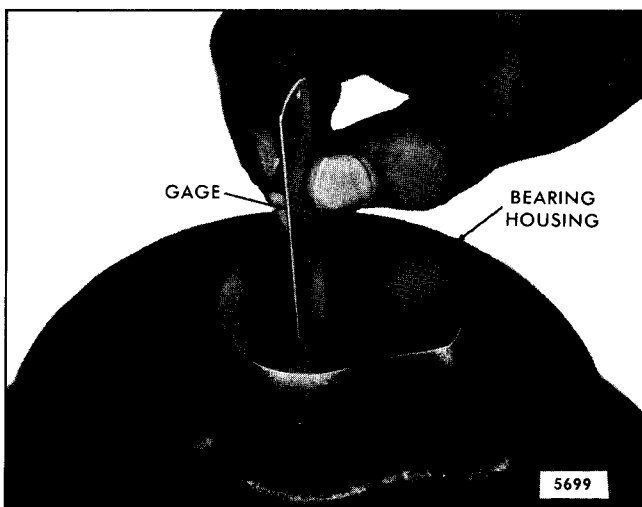

Fig. 11 - Checking Turbine Seal Ring Gap in Bearing Housing
- c. Install the turbine seal ring in its bore, inspect visually for full circle contact, and measure the ring gap with a feeler gage (Fig. 11). The gap range is .002" to .007". Replace if the ring fit is faulty.